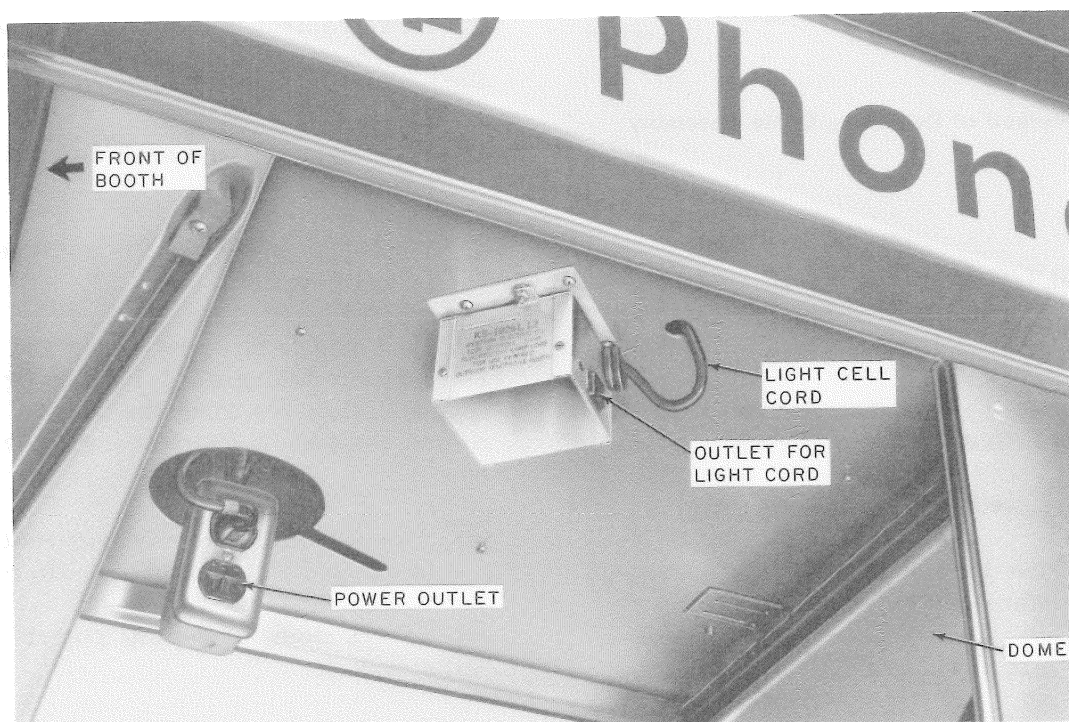

Fig. 12—Position of Light Control on Ceiling of KS-16797 Booth
- (h) Push light cell and cord through hole drilled in ceiling and secure grommet. Push the power cord through 2-inch hole and attach control unit to adapter plate (Fig. 12).